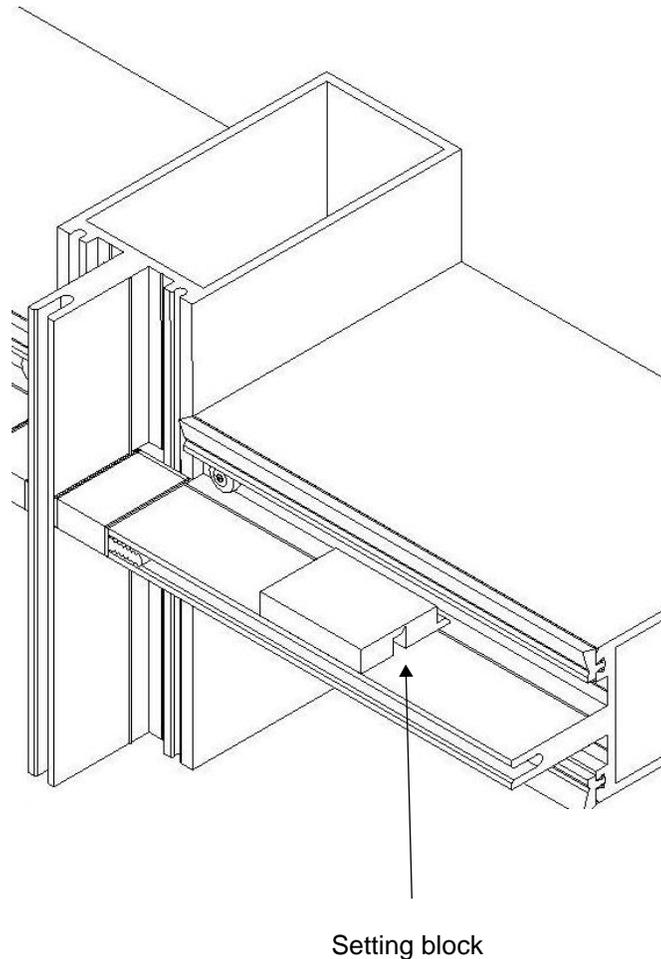

Figure 19: Place setting blocks at the quarter point of the light or as required by shop drawings.
- Place setting blocks at the quarter points of each light (two setting blocks per light) or as required by shop drawings, as shown in Figure 19.